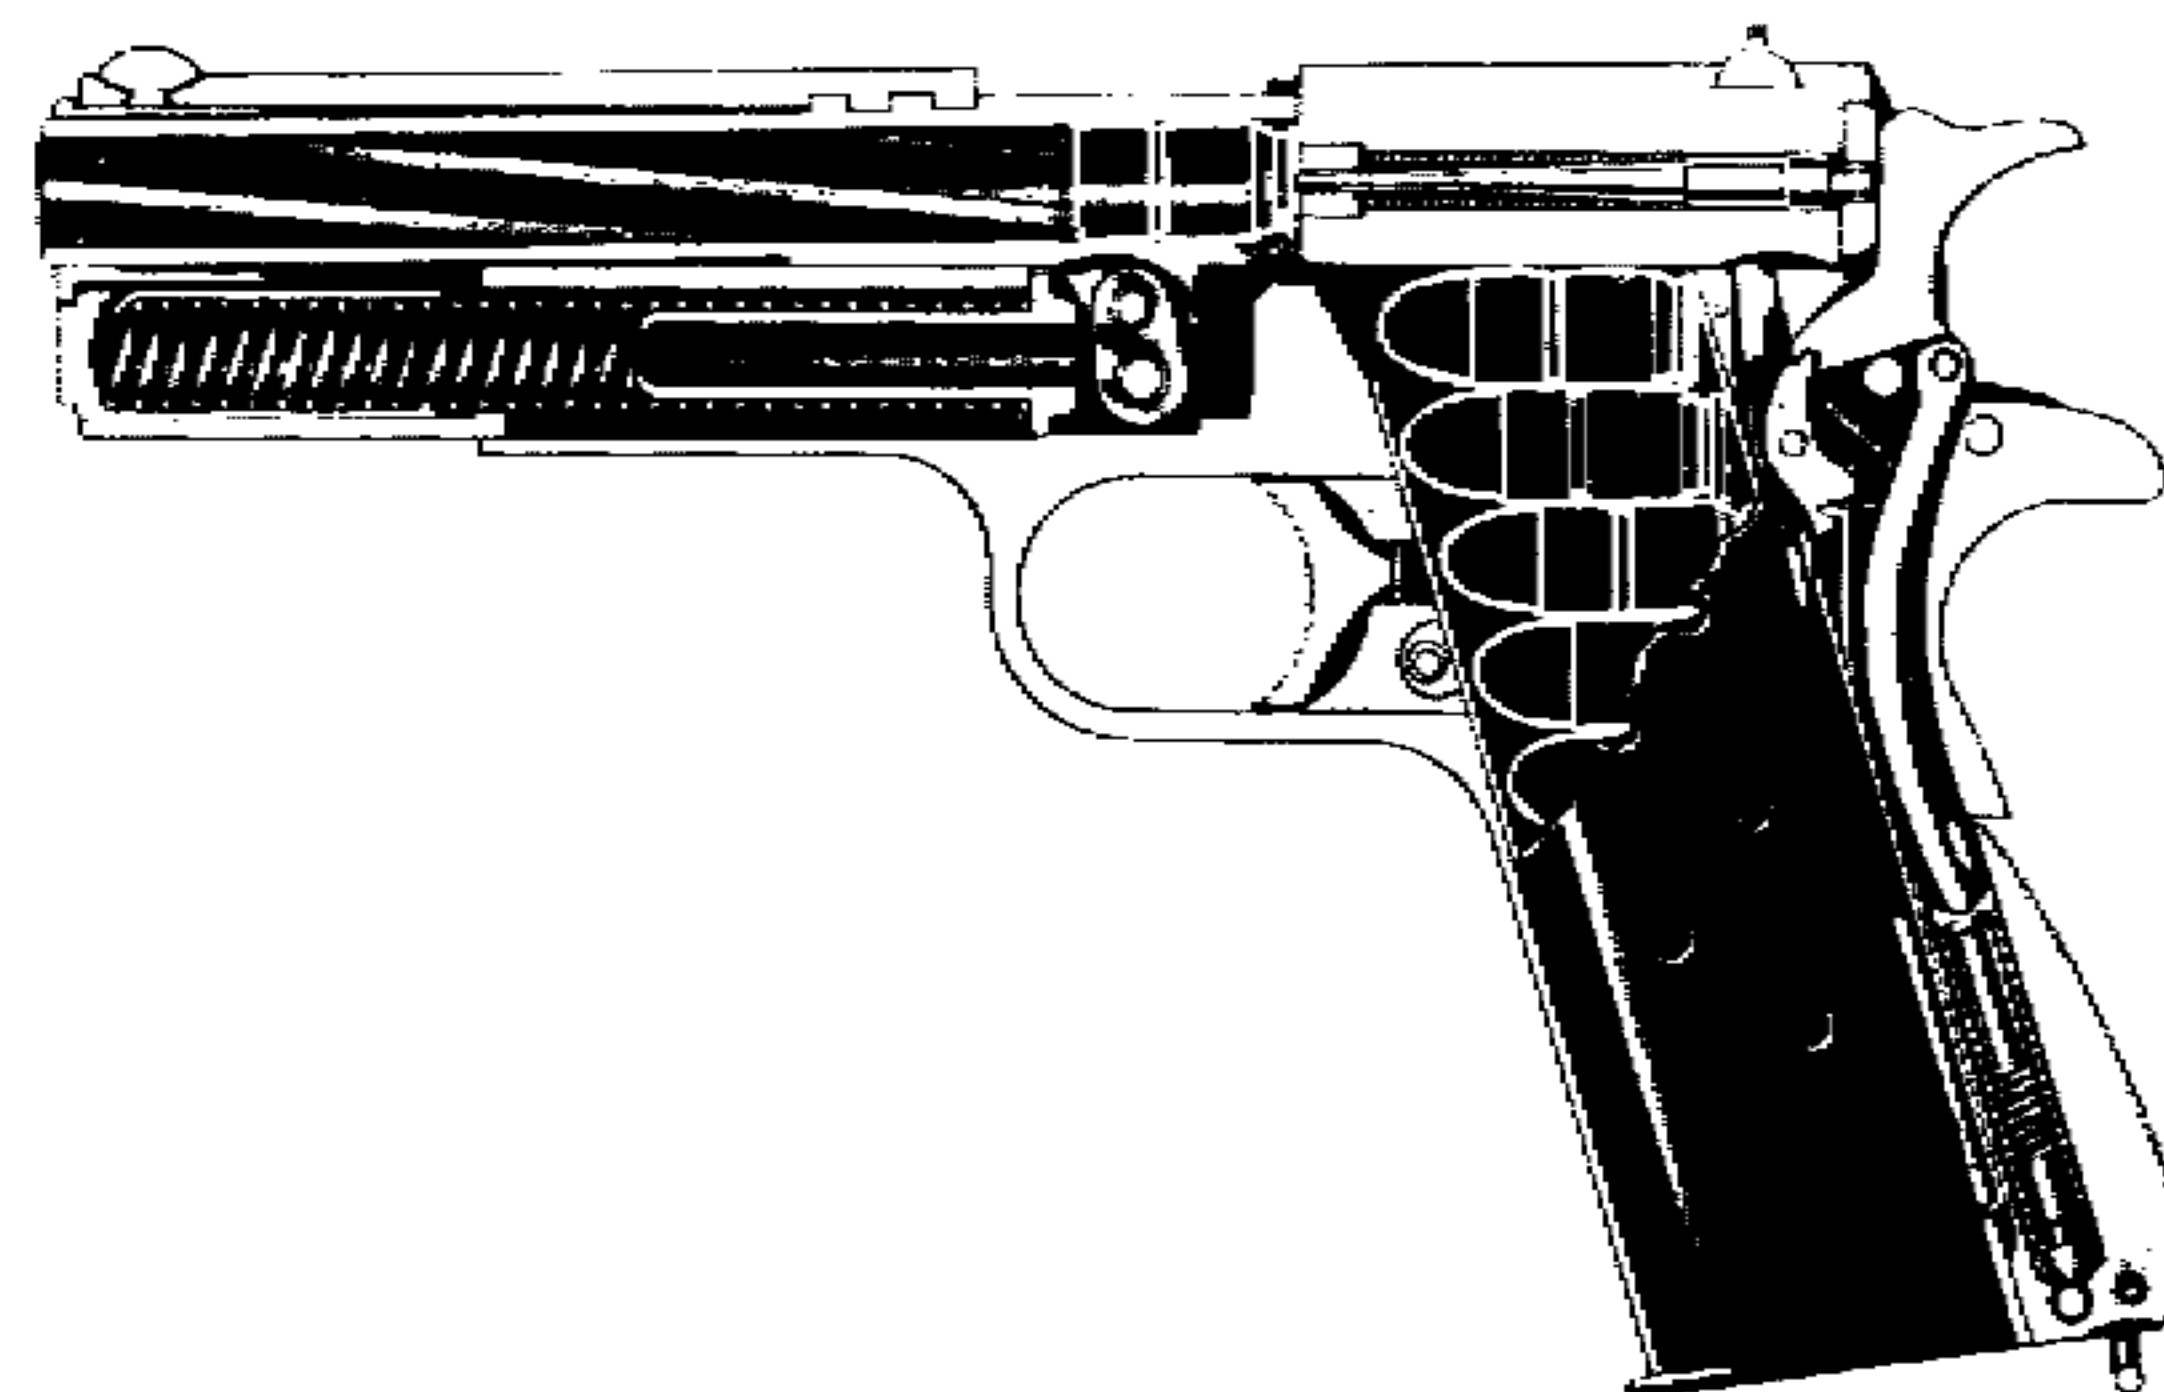

Figure 18. — Sectional View of Pistol M1911A1, Hammer Down, Firing Pin Striking Cartridge
(1) The grip safety must be pressed in permitting the trigger to move.
(2) The slide must be in its forward position, properly interlocked with the barrel, so that the disconnecter is well in the recess on the underside of the slide, under action of the center leaf of the sear spring. In this position, it transmits any motion of the trigger to the disconnecter and sear.
(3) The safety lock must be down, in the unlocked position, so that the sear will be unblocked and free to release the hammer. The slide will then be free to move back.
e. Squeezing the trigger disengages the sear from the sear notch, releasing the hammer and letting it strike the firing pin. The blow overcomes the inertia of the pin and causes it to move forward. The forward end of the pin then strikes the primer of the cartridge, causing it to fire (fig. 18).